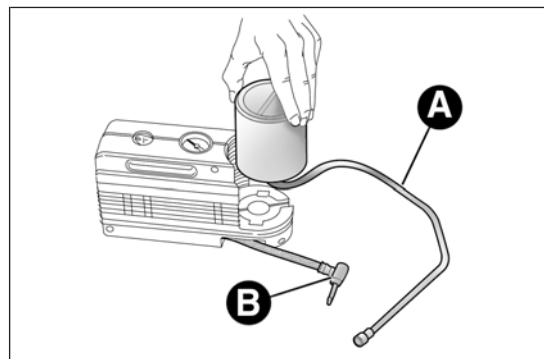

fig. 139
- release connector A fig. 139 and disconnect tube B;